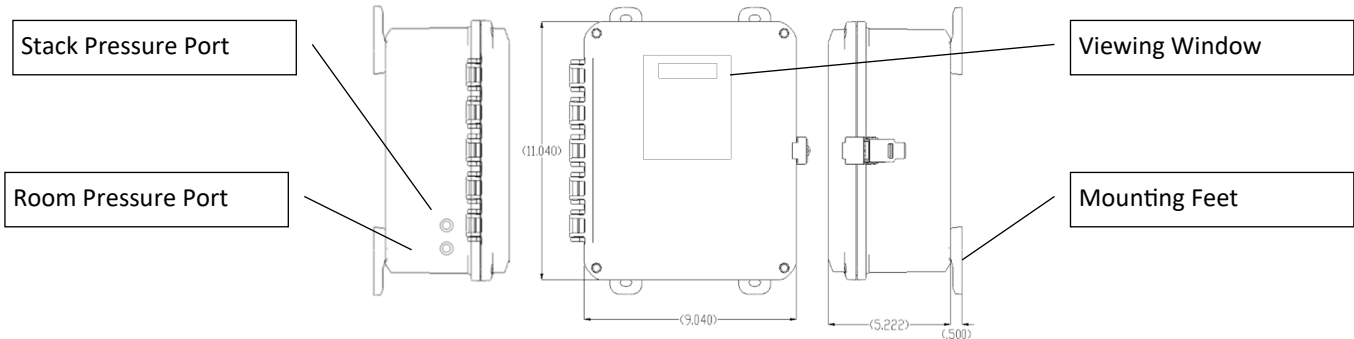

**FIGURE 23**
The X-VENTISO-Meridian-350 Fan (**Figure 23**) is a high temperature exhaust fan that maintains the necessary draft for the XCELUX series. It has been rated for all high temperature chimney, flue, and grease duct applications up to 2100 CFM, but has specific Molex connections for usage with the Meridian Control Panel. This fan is UL and ULC listed for all gas, liquid, or solid fuel burning fireplaces, ovens, cooking appliances, and domestic heating appliances, up to 1000°F continuous, 1400°F abnormal. The housing and impeller are constructed of 316L stainless steel, which helps prevent corrosion from the elements. The tool-less clamp and hinge provides easy access to the impeller for routine maintenance and cleaning.
The X-VENTISO-Meridian-350 fan uses the X-VENTISO-12" Pipe Adapter for 350 Fan (**Figure 23**) to mate the fan to 12" B-vent chimney. The adapter has a slip-fit collar that inserts into the B-vent pipe and a mounting flange that provides a stable surface for the fan. The adapter allows for the fan to be mounted to the exterior wall of the structure in horizontal termination installations.
- The location of the Meridian Control Panel is dependent upon the fireplace model and must be within the values shown in **(Figure 23)**. The distances shown are as measured horizontally from the fireplace flue-outlet.
- Two 120 VAC / 15A outlets must be provided at the chosen location on a dedicated circuit; one for the Meridian Control Panel, the other for the Gas Valve Control Box . These outlets must be within the extent of the 72” power supply cables of the Meridian Control Panel and the Gas Valve Control assembly **(Figure 23)**.